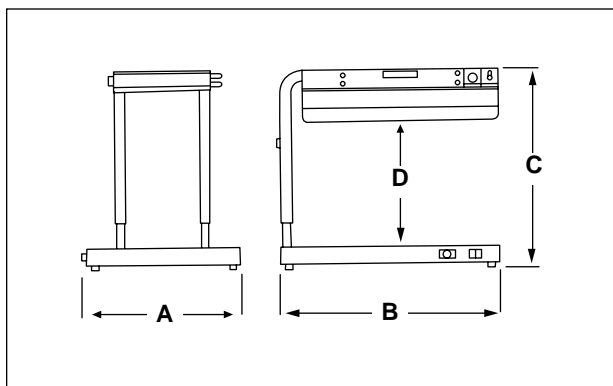

Figure 3. Dimensions
*The adjustable clearance between the top of the base to the bottom of the foodwarmer housing is 17½" - 23½" (45-60 cm). See Figure 3.